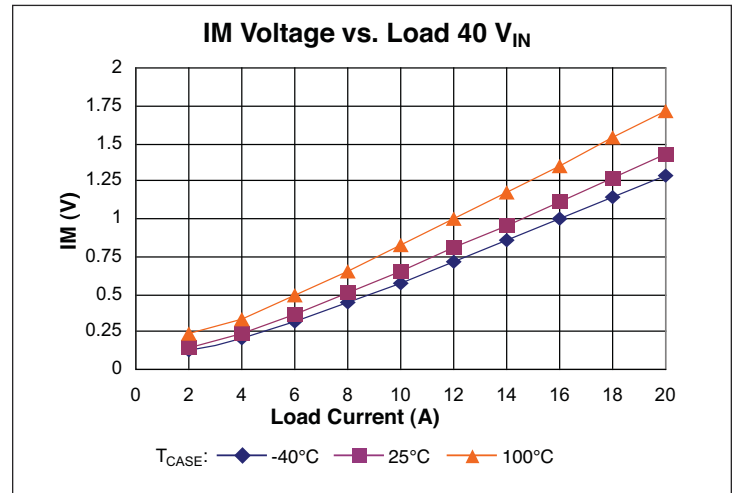

Figure 8 — IM voltage vs. load
**Current Monitor (IM)** pin provides a voltage proportional to the output current of the VTM module. The nominal voltage will vary between 0.11 V and 1.47 V over the output current range of the module (See Figures 8–10). The accuracy of the IM pin will be within 25% under all line and temperature conditions between 50% and 100% load.